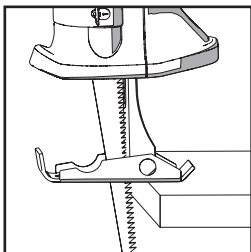

Fig. 6
- Ensure that the workpiece contact plate is firmly in contact with the workpiece but that the blade is not. **(Fig. 6).**